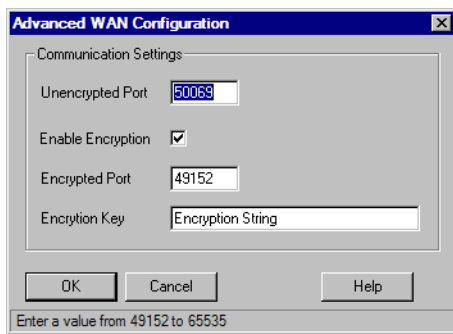

Figure 3-20. Advanced WAN Configuration
- a. Click **Advanced**. The Advanced WAN Configuration editor opens (Figure 3-20).